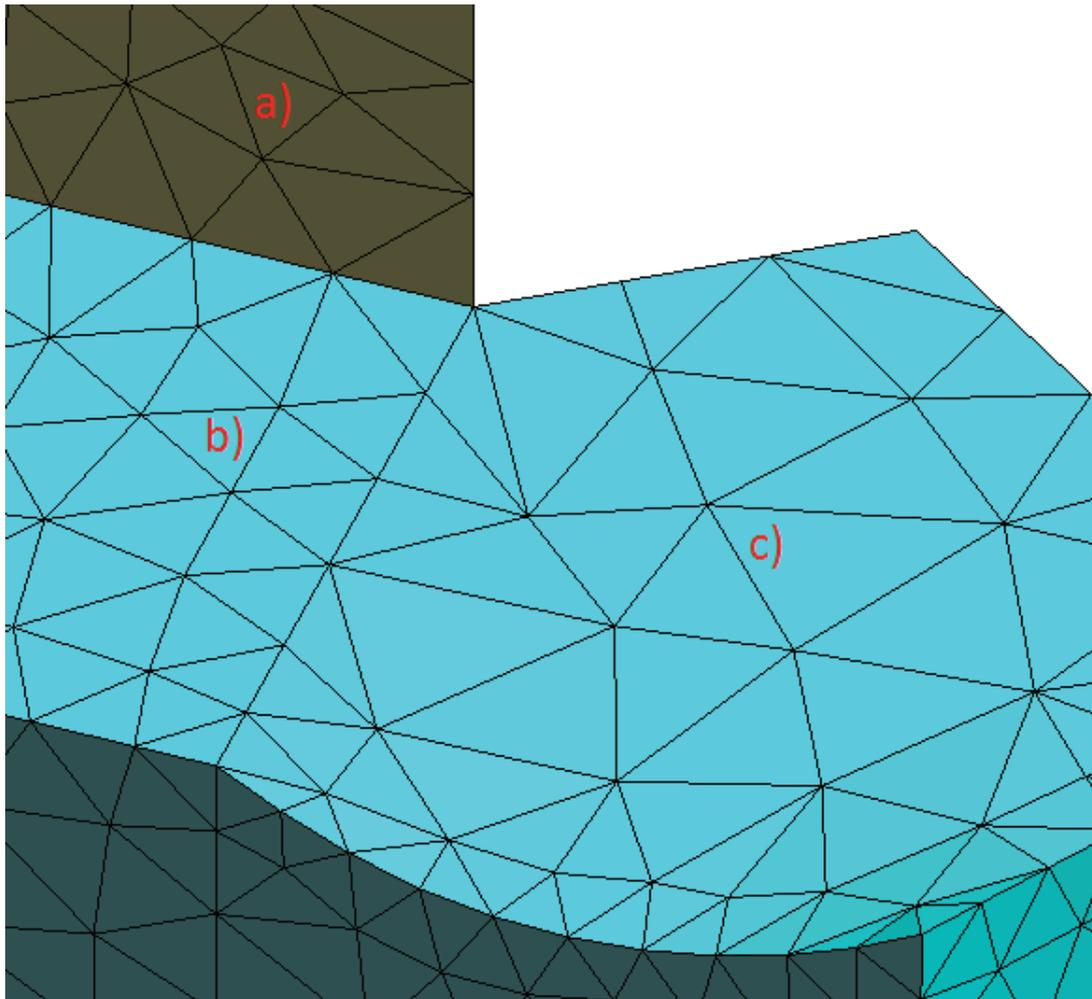

Figure 3. Different render styles: a) surface mesh, b) volume mesh, c) surface mesh and volume mesh together (surface layer is red and volume layer is blue)
- 7 . Select **Render->Flat** in mouse menu to see the mesh in render mode. As is shown in Figure 3, volume meshes are represented a little bit differently from surface meshes, although in both cases triangles are shown. If the triangles you see are the boundary of a volume mesh, they are shown with black edges that are thicker than surface meshes triangles. If the triangles form a boundary volume mesh and, at the same time, a triangle surface mesh (this can be obtained if surfaces are selected with the option **Mesh->Mesh criteria->Mesh->Surfaces**), the wider edges are colored with the color of the surface layer. Examples of these different kinds of render are shown in Figure 3.